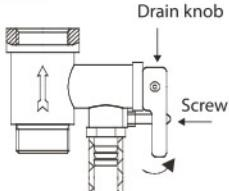

Fig. 6
6. Water can be drained through a composite relief valve (Fig. 6) (unscrew the composite relief valve drain knob screw and set the drain knob to the upper position, at that hot water tap must be open, and cold water supply valve must be closed).